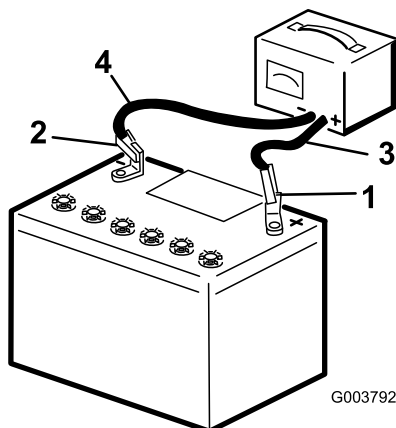

Figure 81
3. Connect the positive lead of the battery charger to the positive battery post (Figure 81).
4. Connect the negative lead of the battery charger to the negative-battery post (Figure 81).
6. When the battery is fully charged, unplug the charger from the electrical source, then disconnect the charger leads from the battery posts (Figure 81).